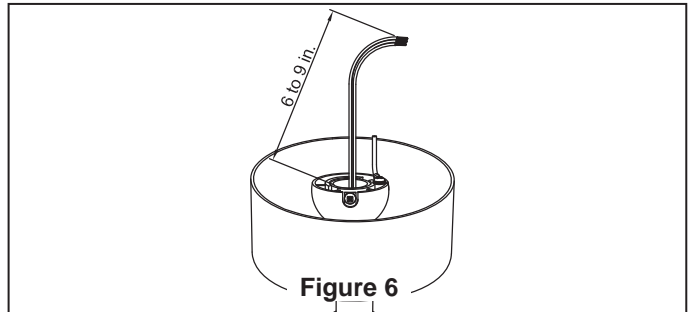

Figure 6
6. Before installing fan, measure up approximately 6-9 inches above top of downrod/hanger ball assembly. Cut off excess wire and strip back insulation 1/2" from end of wire. (Figure 6)